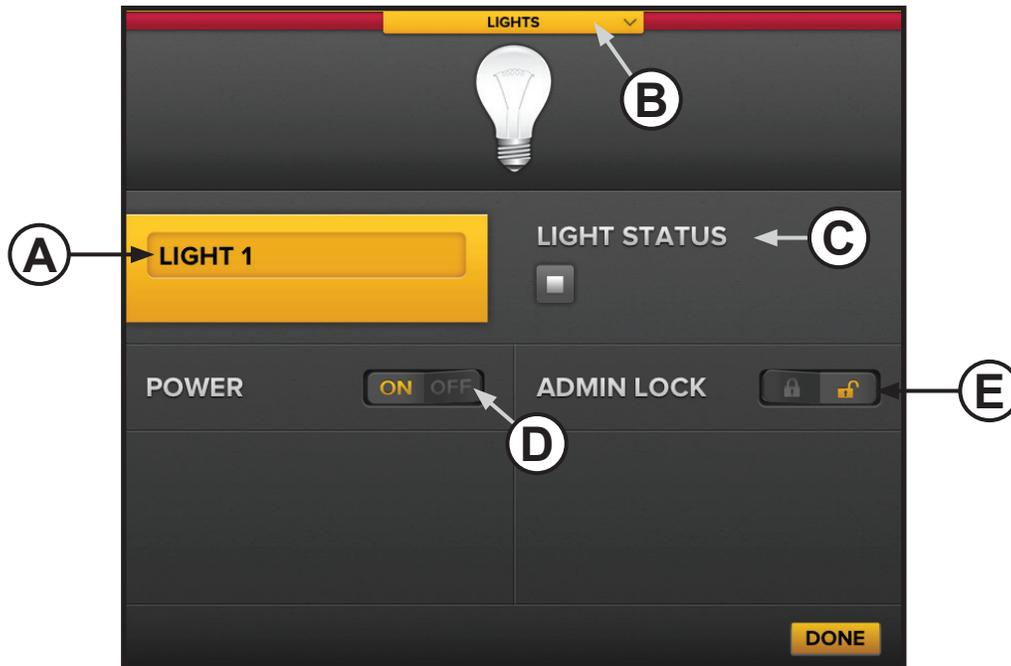

Figure 10—Light settings page
3. Select the light. The light settings page appears (Figure 10).
4. Adjust the settings as necessary, and then touch **Done**. See Figure 10 below for details.